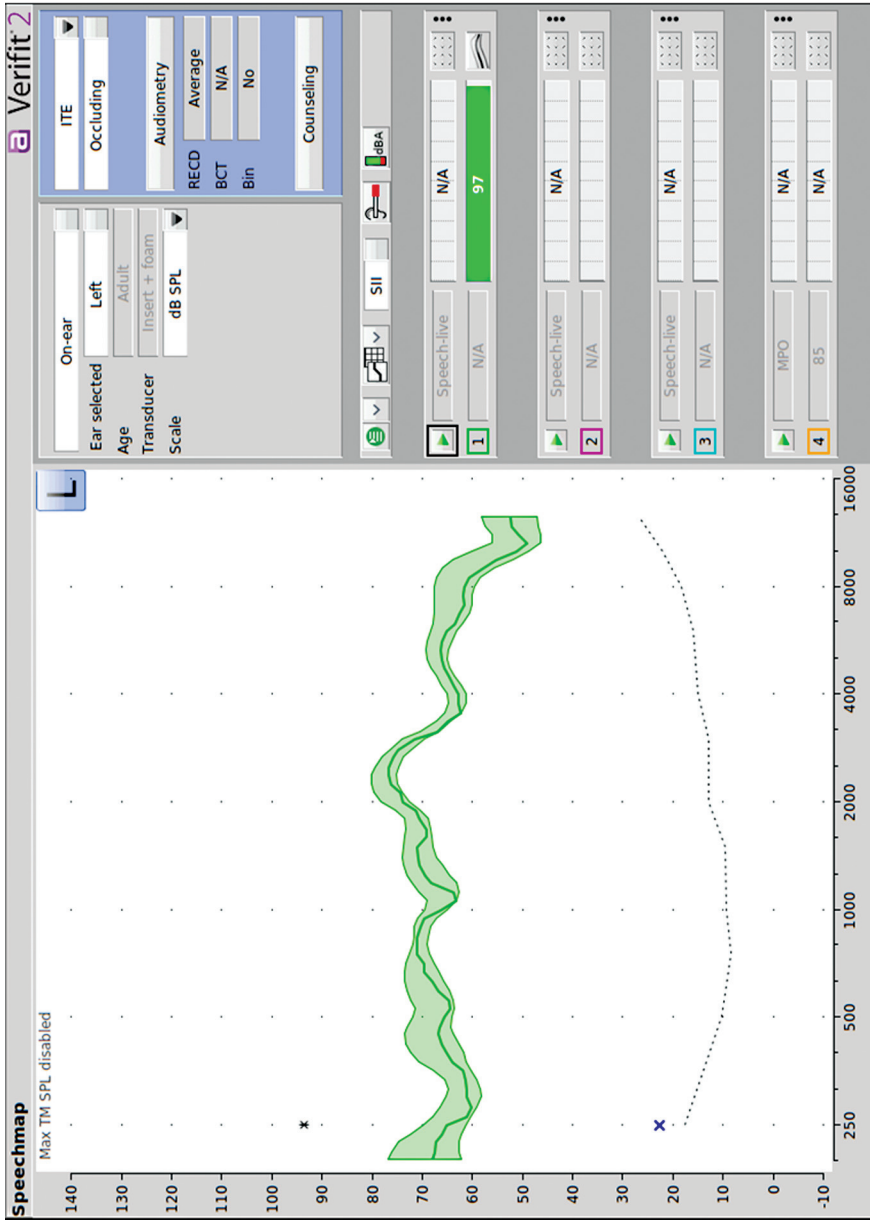

Figure 11 SPL at the eardrum when listening to music at a typical volume level through a personal listening device.
7. Click the **red circle** to record the response and click the **pause button** to capture a specific moment (Figure 11).
8. Figure 11 shows the dB SPL at the eardrum. Safe listening levels are below 85 dB SPL for no more than 40 hours per week. If the level exceeds 85 dB SPL, it is important to counsel the patient on excessive noise exposure and hearing protection as a function of how long they listen to these levels.